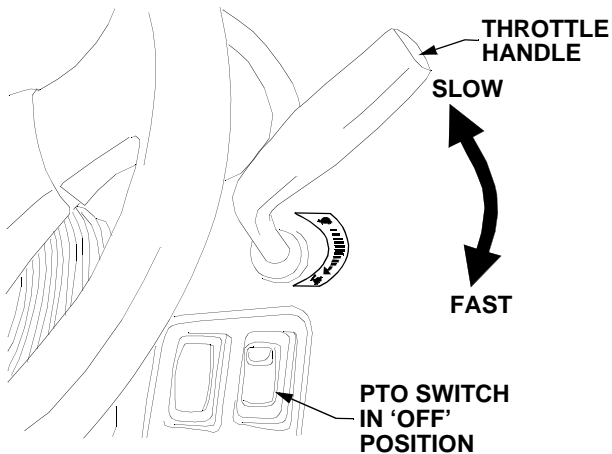

Figure 14
- Move the throttle handle to approximately the "MID" throttle position. Refer to Figure 14.